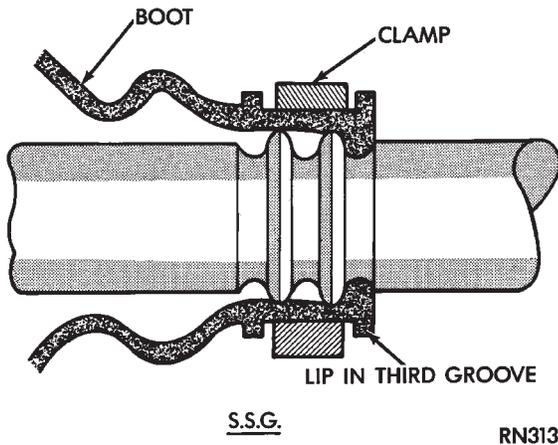

Fig. 14 Boot and Clamp Positioning S.S.G.
- (1) Slide small clamp onto shaft.
(2) Position small end of boot over interconnecting shaft with lip of boot in third groove, towards center of interconnecting shaft (Fig. 14).